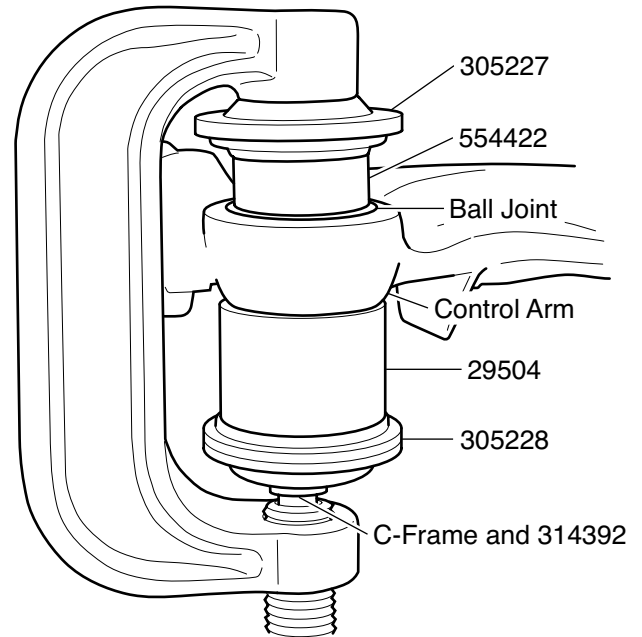

Figure 1. Ball Joint Removal
3. Position 29504, 305228, 314392 and the C-Frame as shown in Figure 1.